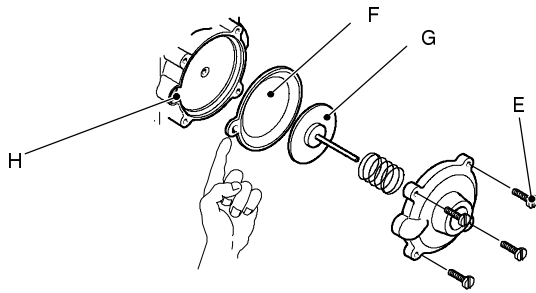

Fig. 53
- 3 Unscrew the four screws E (see Fig. 53) open the hydraulic operator and remove the membrane F.
**When assembling the membrane, ensure that its concave side faces towards the actuator plate G and the reference indicated aligns with the seat H (see Fig. 53).**